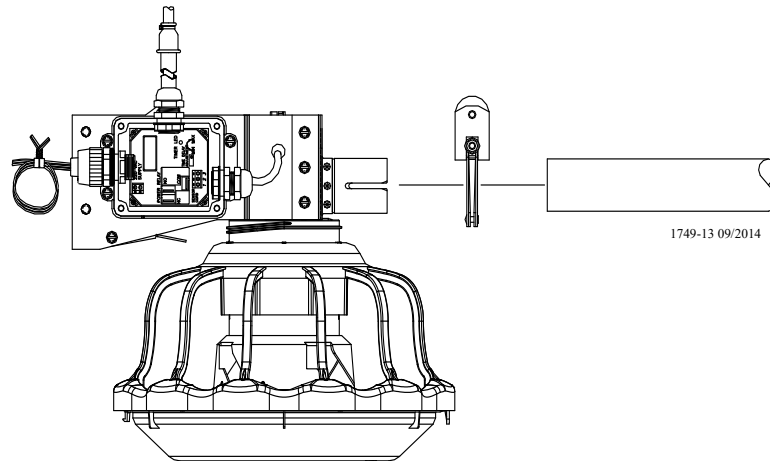

Figure 41. Connecting End Control Unit to the Feed Line Tube
1. Assemble the End Control Unit to the Feeder Line Control Tube using a clamp/anti-roost bracket. See **Figure 41**. **DO NOT INSTALL THE POWER UNIT AT THIS TIME.**